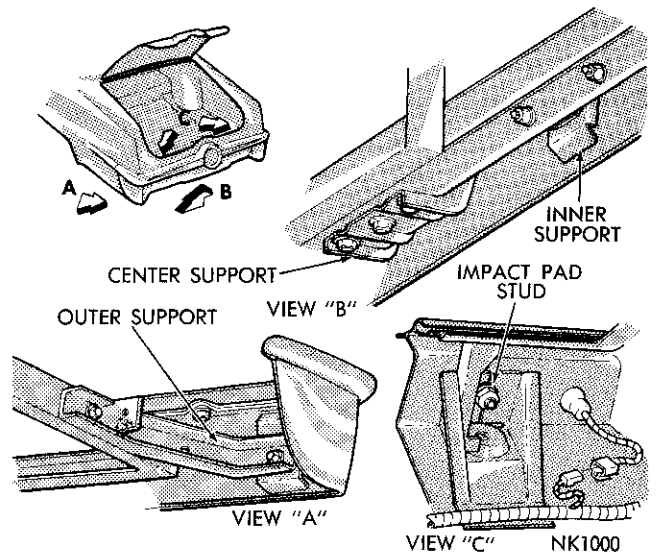

Fig. 5—Rear Bumper (Imperial)
- (1) Support the bumper at the center with a hydraulic jack and remove the center inner and outer support to frame bolts (Fig. 5).
- (2) Loosen the impact pad stud nuts and disconnect the tail lamp wiring.
- (3) Remove the impact stud nuts and remove the bumper assembly.
- (4) Remove the support mounting brackets from the bumper assembly.